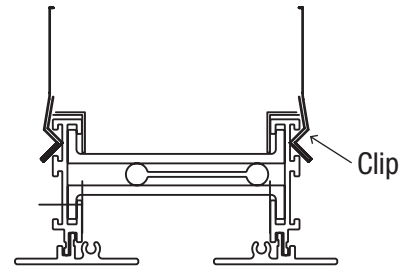

Figure 7 (Step 4A):
- A. The Greenheck model XG-UP (uninsulated) or XG-UPI (insulated) can be used with the XG-AFL linear slot diffuser. A plenum can also be fabricated in the field. If the plenum is the XG-UP(I), there will be clips on the plenum that attach to the XG-AFL linear slot diffuser (see Figure 7).